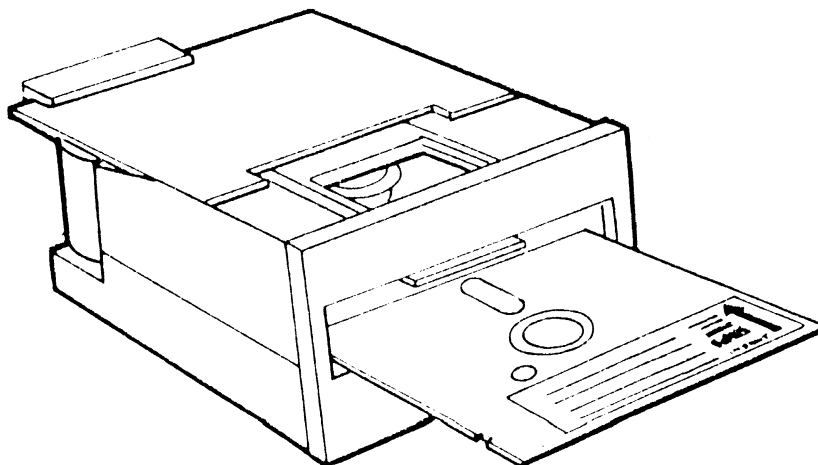

Figure 4-1 Diskette Orientation
- c. Remove diskette from its storage envelope and insert in the drive. The index hole must be on the left side of the jacket and the label on the right towards the door. Push the diskette forward until a "click" is heard. (See Figure 4-1).